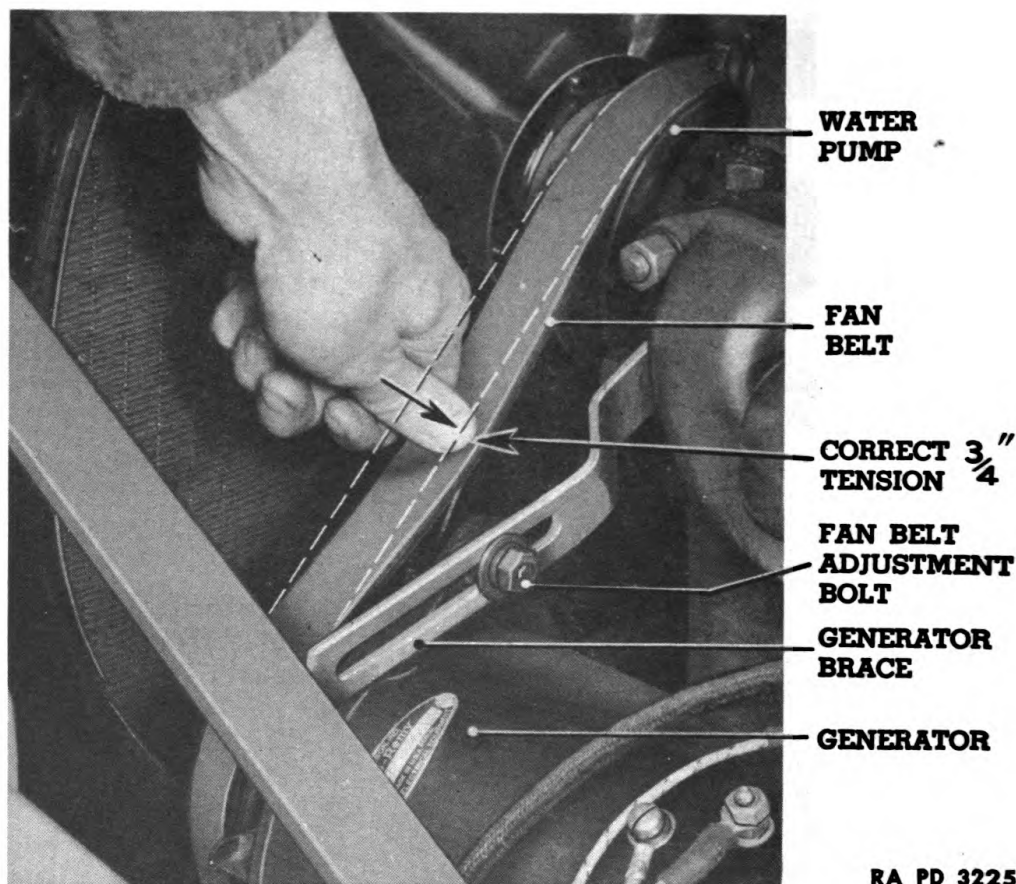

Figure 47—Fan Belt Adjustment
b. **Fan Belt Adjustment** (fig. 47). Loosen bolt at generator mounting bracket and end of slotted brace. Rock the generator on its mounting bracket. Moving generator away from engine tightens the belt. Moving generator toward engine loosens the belt. The